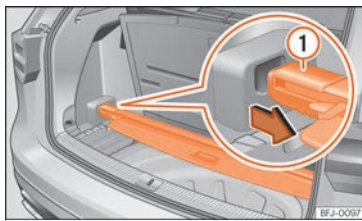

Fig. 154 Under the boot floor: store the rear shelf.
- Place the rear shelf in the corresponding housing »» **Fig. 154**.